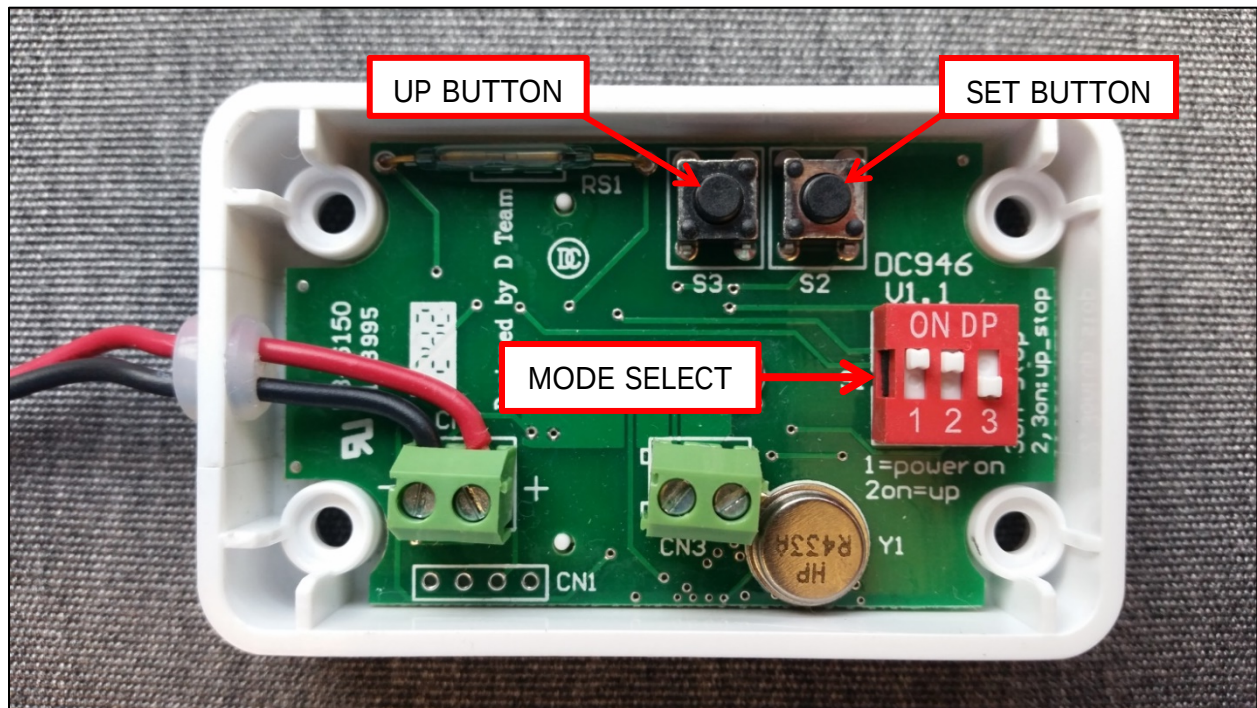
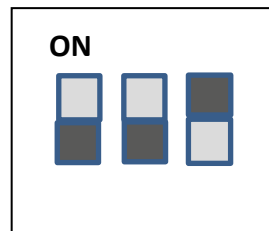

Fig. 1
Fig. 2
The three Dip Switches of the **GC 946G** (Fig.1) determine its mode of operation. Fig.2 Shows the Dip Switches set as 1-ON / 2-ON / 3-OFF (The white square shows the position of the switch!). The function of switch 1 is to supply power to the transmitter and this is shipped in the “off” position to preserve the battery state. Power will be applied after installation at the Programming stage.
1. Remove the 4 Philips screws securing the cover of the module.(Fig.1)
2. Remove the top cover and configure the DIP switches as shown in Fig.2 above.
2. Remove the 4 Philips screws securing the cover of the module.(Fig.1)
3. Remove the top cover and configure the DIP switches as shown in Fig.2 above.